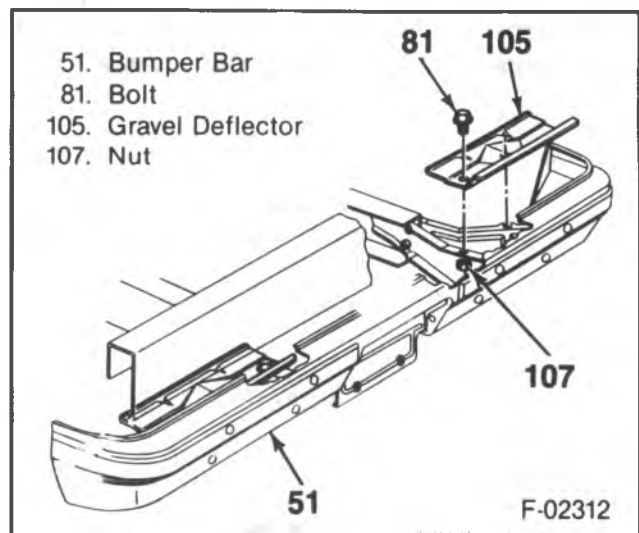

Figure 13 — Rear Bumper Gravel Deflector
1. Brace nuts (93), spring washers, and washers at the bumper.
2. Bracket nuts (99), spring washers and washers at the bumper.
4. Bumper bolts (106).
5. Gravel deflector nuts (107) and bolts (81) (where used) (figure 13).
6. Gravel deflectors (105).
7. Brace to frame nuts (100), spring washers (102), and bolts (104).
8. Braces (92).
9. Bracket to frame rail nuts (101), spring washers (102) and bolts (103).
10. Brackets (96).
5. Gravel deflectors (where used) (figure 13).
6. Nuts (107) and bolts (81).